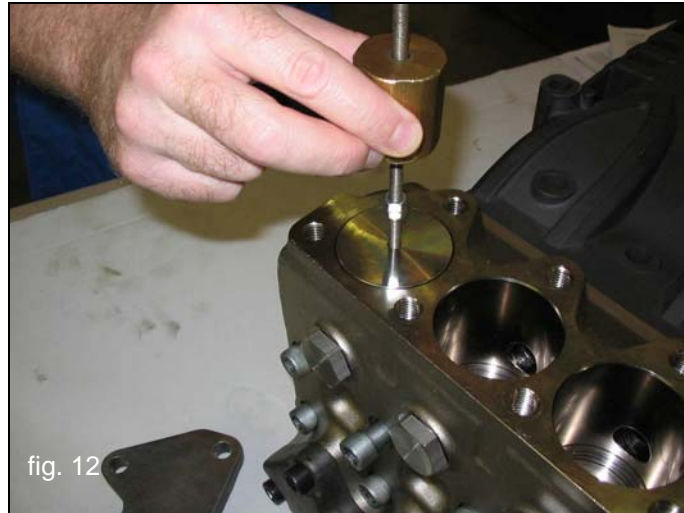

fig. 12
- A) Unfasten the 7 M12x35 valve cover screws, and remove the cover, fig. 12.
- B) Extract the valve plugs using a slide hammer (cod. 26019400), fig. 12.